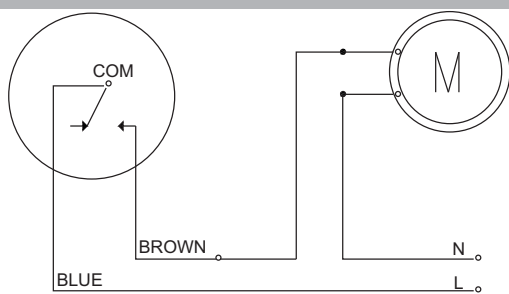

Figure 3-Emptying (NO) Function
The Series CFS2 features a variety of different cable options. One of these options includes the selection between SPST and SPDT. SPST, single pole single throw, allows a single operating function with the choice of operation on increasing level (NC/filling) or operation on decreasing level (NO/emptying), depending on the model selection. SPDT, single pole double throw allows for operation of both increasing and decreasing level, depending on the connections made between the terminals of the micro-switch and the cable. SPDT, which is a four-conductor cable (ground option) or a three-conductor cable (without ground option), has one lead that is common, one that is normally open (NO), and the other that is normally closed (NC), for the proper connections of these conductors please refer to the wiring diagrams in Figures 3 to 12.